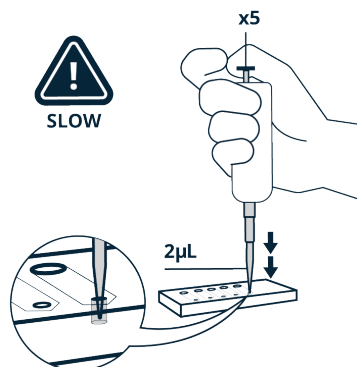

Figure 2. Slowly inject 2µL of sample to each inlet port.
5. Use the 1-10µL micropipette fitted with the recommended tip to slowly add 2µL of liquefied semen sample to the inlet port (Figure 2). As in the previous step, do not allow the micropipette to “bottom out.” Ensure free flow of the semen sample. Ignore any excess solution buildup at the inlet port.